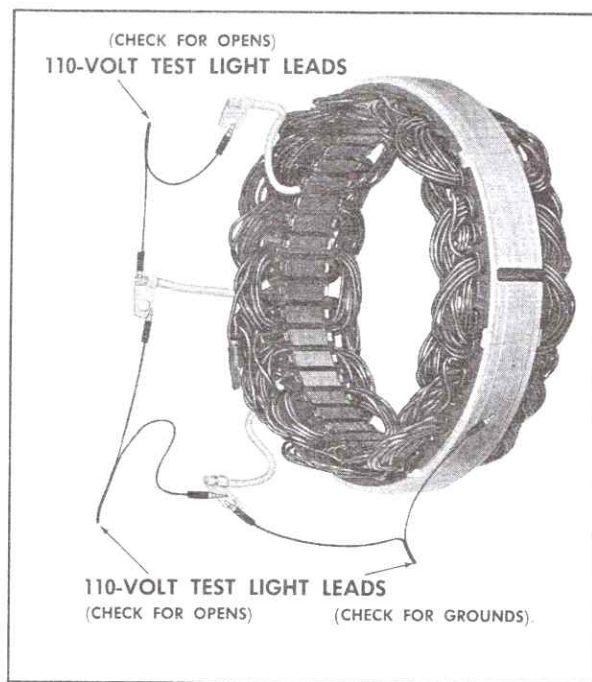

Fig. 6-41 Stator Checking
2. Check stator windings for grounds or opens, using a 110-Volt Test Lamp, Fig. 6-41.